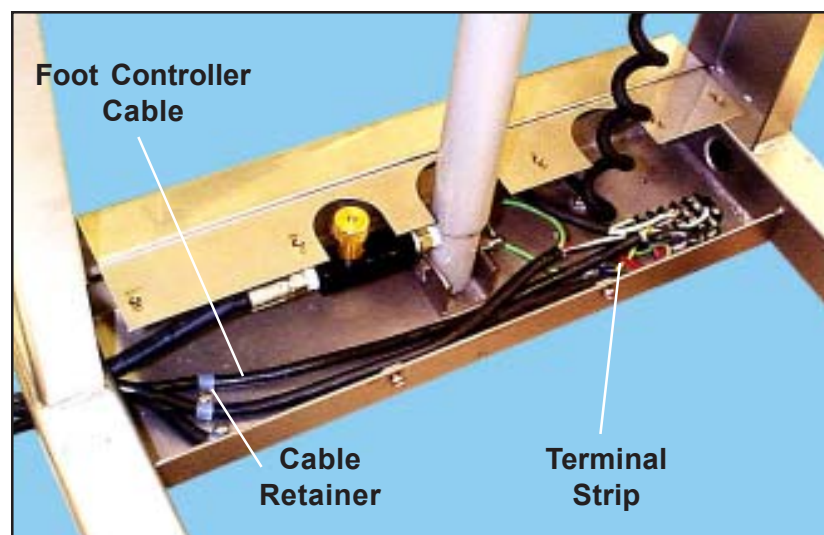

Figure 52. Foot Controller Cable and Terminal Strip
5. With a Phillips screwdriver, remove the cable retainer and free the foot controller cable (Figure 52).